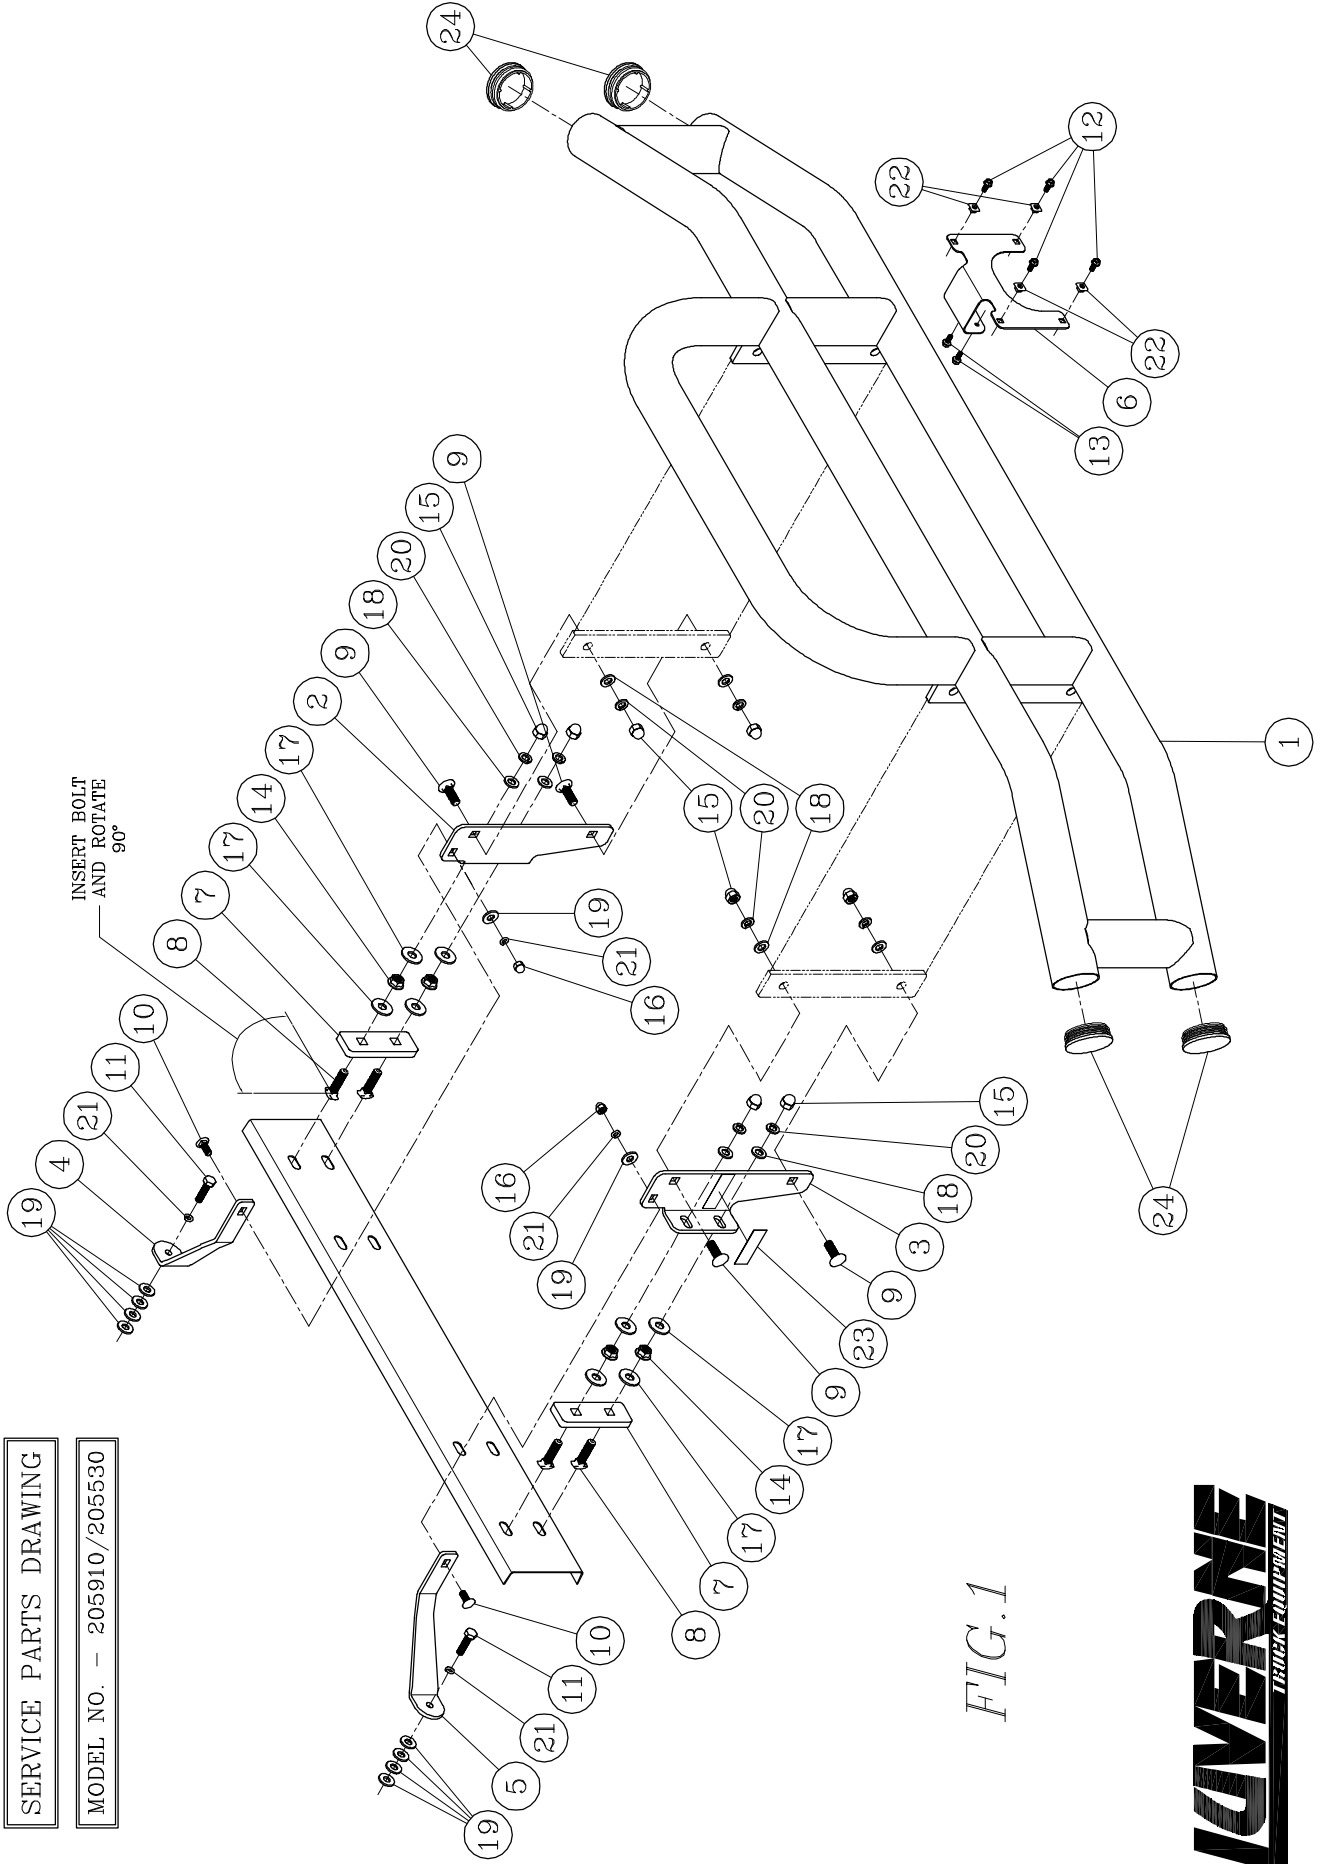

FIG. 1
4. INSERTS THE HEADS OF THE CARRIAGE BOLTS INTO THE OUTSIDE SLOTTED HOLES OF THE BUMPER BAR AND TURN THEM 90°. PUSH THEM TO THE OUTSIDE OF THE SLOT. THE BOLTS SHOULD BE APPROXAMATELY 32-3/4" ON CENTER. TIGHTEN THE NUTS TO 65 FOOT-POUNDS. SEE *fig. 1 & 2*.
6. INSTALL THE LEFT HAND MOUNTING BRACKET BRACE BY INSERTING AN M10 X 1.25 X 40mm BOLT (ITEM #11) AND 3/8" LOCK WASHER (ITEM #21) THROUGH THE HOLE IN THE BRACE (ITEM #4) FOLLOWED BY FOUR 3/8" FLAT WASHERS (ITEM #19), THEN INSTALL THE BOLT IN THE HOLE AND SNUG UP. DO NOT TIGHTEN AT THIS TIME. SEE *fig. 1 & 4*.
13. INSTALL THE 1/2" FLAT WASHERS ON THE ENDS OF THE BOLTS ON THE FRAME, THEN INSTALL THE LEFT AND RIGHT MOUNTING BRACKETS AS SHOWN IN FIG. 1. FASTEN WITH THE 1/2" SAE FLAT WASHERS (ITEM #18), 1/2" LOCK WASHERS (ITEM #20) AND 1/2"-13 ACORN NUTS (ITEM #15). DO NOT TIGHTEN AT THIS TIME. SEE *fig. 1 & 6*.
14. INSTALL THE GRILLE GUARD BETWEEN THE BRACKETS AND FASTEN WITH THE 1/2"-13 x 1-1/4" CARRIAGE BOLTS (ITEM #9), 1/2" SAE FLAT WASHERS (ITEM #18), 1/2" LOCK WASHERS (ITEM #20) AND 1/2"-13 ACORN NUTS (ITEM #15). DO NOT TIGHTEN AT THIS TIME. SEE *fig. 1 & 6*.
15. FASTEN THE BRACES (ITEMS #4 & #5) TO THE MOUNTING BRACKETS (ITEMS #2 & #3) WITH THE 3/8"-16 x 1-1/4" CARRIAGE BOLTS (ITEM #10), 3/8" FLAT WASHERS (ITEM #19), 3/8" LOCK WASHERS (ITEM #21) AND 3/8"-16 ACORN NUTS (ITEM #16). DO NOT TIGHTEN AT THIS TIME. SEE *fig. 1 & 6*.